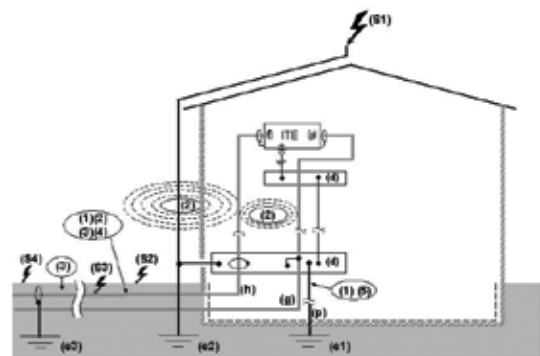

Figure 1: Coupling mechanisms.
NOTE: (1) – (5) see Figure 1, coupling mechanisms.